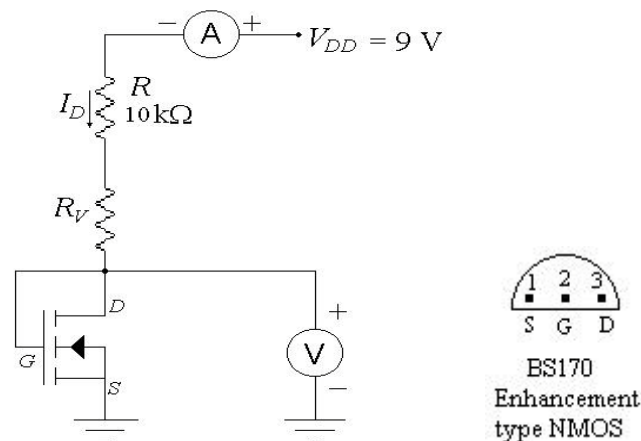

Figure 1 : Circuit for determining NMOS parameter.
- 1- **Connect** the circuit as shown in the Figure 1. Note that for this connections $V_{DS} = V_{GS}$ and the NMOS will be in the saturation mode.